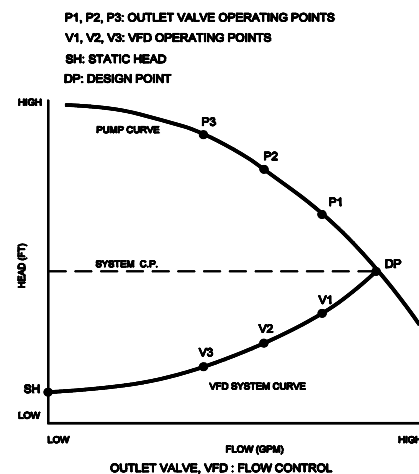

Figure 1
The **VFD system curve** is derived by selecting an operating point on the desired **pump curve** and connecting the operating points of the revised pump curve as calculated by the affinity laws through the **static head** point, (SH). If the static head is high, the system curve can approach a **Constant Pressure** design (System C.P.). If the static head is low, the system curve will resemble the VFD system curve shown in Figure 1. **Basically, the lower the static head is, the greater the energy savings that will be achieved by using VFD's.** This does not mean that savings can not be realized by using VFD's on a constant pressure system - each installation must be evaluated on its own merit.